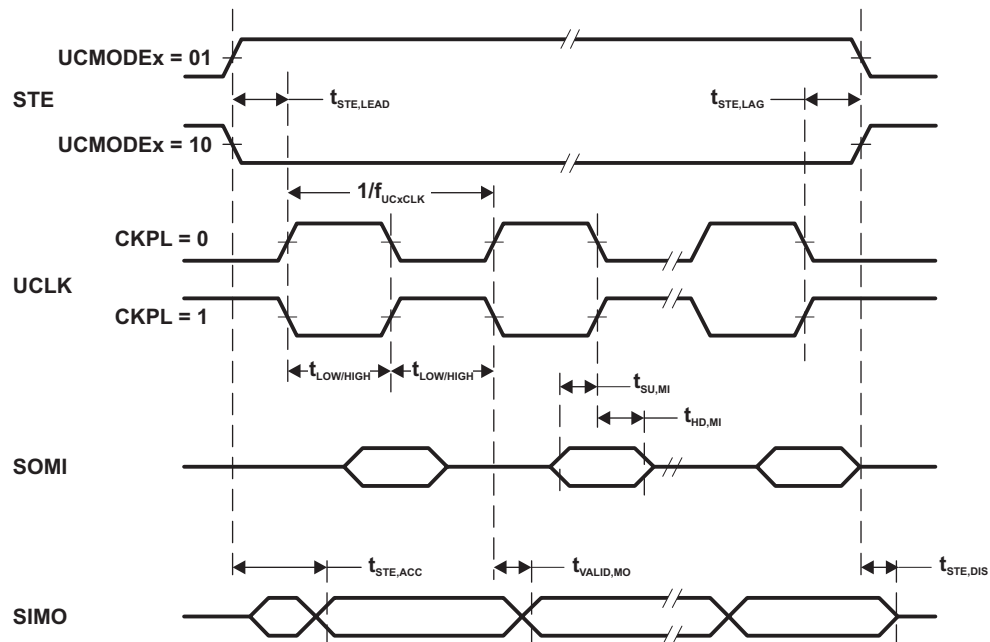
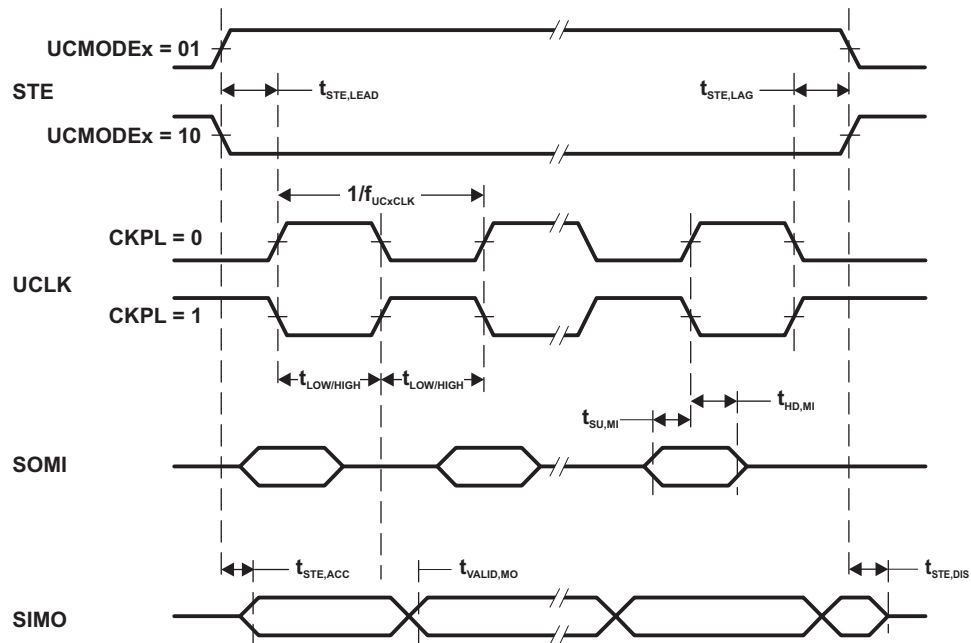

Figure 7. SPI Master Mode, CKPH = 0
Figure 8. SPI Master Mode, CKPH = 1
(2) Specifies the time to drive the next valid data to the SIMO output after the output changing UCLK clock edge. See the timing diagrams in Figure 7 and Figure 8.
(3) Specifies how long data on the SIMO output is valid after the output changing UCLK clock edge. Negative values indicate that the data on the SIMO output can become invalid before the output changing clock edge observed on UCLK. See the timing diagrams in Figure 7 and Figure 8.